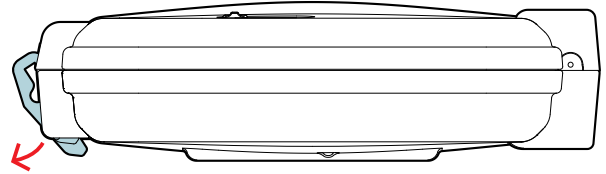

Figure 9: Open the latch
1. **Pull the bottom of the latch outward** (Figure 9).